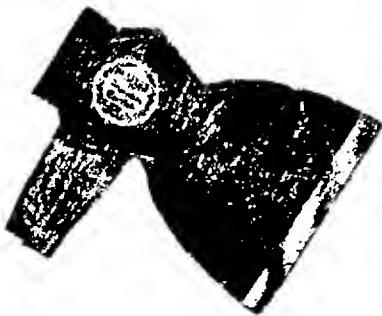

Figure 19 Broad Hatchet
5. The Hatchet is a tool of its own. Often times, the word hatchet, half-hatchet and hand axe are used interchangeably. However, each is different. The hand axe is an axe with a curved blade from heel to toe and has a short curved handle. It is a small axe. The old true hatchet is called a broad hatchet and, like the adz, it too is becoming a tool which is being used less and less. Although it is still used today, especially by construction people, surveyors, etc., who make a lot of stakes for string layouts and the like. Sometimes the cutting edge will be beveled one way or the other for the purpose of "cutting in" easier. Broad hatchets were designed with a straight blade from heel to toe, but the face is broad and shaped somewhat like a half circle. The handles are straight. The earlier hatchets were used for barrel making and shingling. These hatchets had "ears" like the Jersey axe head which were added to the head of the hatchet to hold the handle more secure so the poll could be used as a driving tool. Later on, as the old wooden shingles had to be removed and replaced, the face of the hatchet was extended pollwise to a hammer/claw type arrangement, and thus the "claw hatchet" came into being. A hatchet works best when chopping with the grain of the wood, and it is also good for heavy nailing because of the weight of the head. See Figure 19.